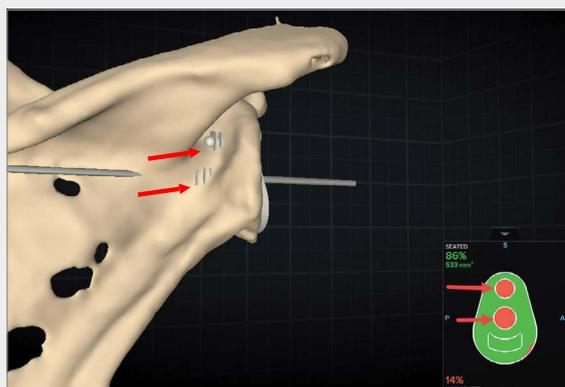

Figure 36. Implant perforation in Backside Seating feature
### Implant Perforation (Figure 36)
- This feature within the backside seating heat map will show areas where the implant perforates the glenoid medially as indicated by the red arrows shown in Figure 36.